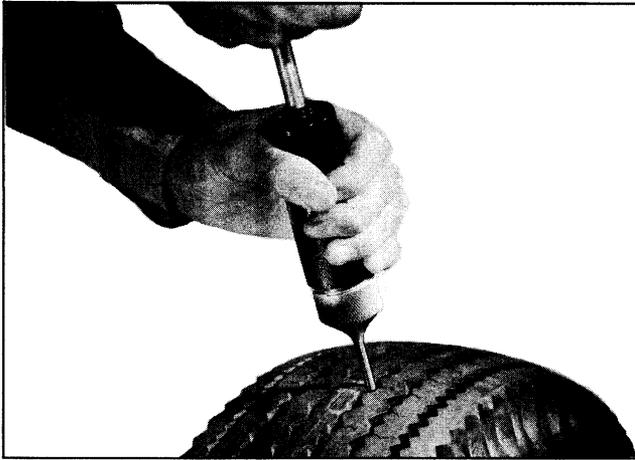

Fig. 4-13 Using Sealer Gun
2. Using sealing gun, fill puncture from the outside of the tire as shown in Fig. 4-13.